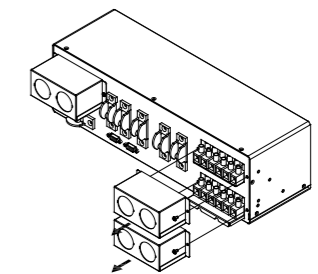

Fig. 3
- Unscrew and remove the cable entry boxes on the MBB-P. See Fig. 3.